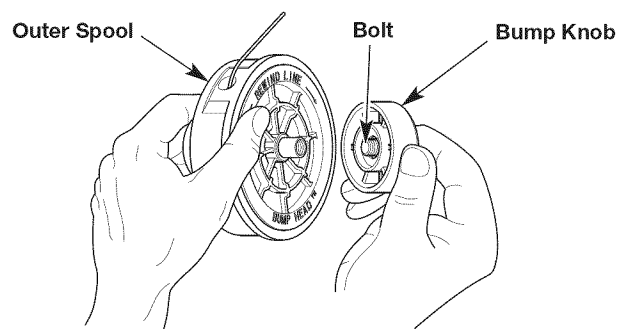

Fig. 9
1. Hold the outer spool with one hand and unscrew the bump knob counterclockwise (Fig. 9).